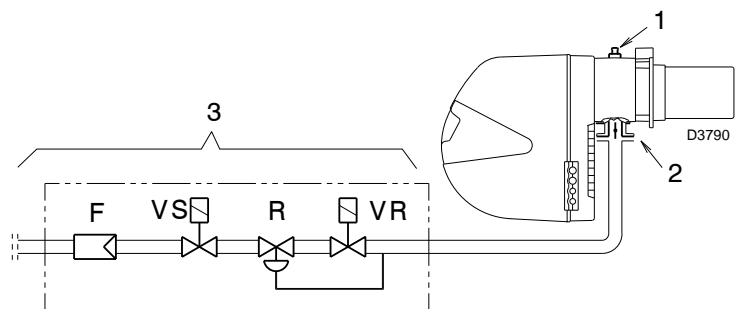

Fig. 36
Gas pressure measured at the test point 1)(Fig. 36), with:
Load loss at gas butterfly valve 2)(Fig. 36) with maximum opening: 90°.
Load loss at train 3)(Fig. 36) including: adjustment valve VR, safety valve VS (both fully open), pressure adjuster R, filter F.
- Subtract the combustion chamber pressure from the gas pressure measured at test point 1)(Fig. 36);
- Gas pressure at test point 1)(Fig. 36) = 7.5 mbar
**To know** the required gas pressure at test point 1)(Fig. 36), set the maximum output required from the burner operation, then:
- read, on the right (column 1) the socket pressure 1)(Fig. 36);
- gas pressure at test point 1)(Fig. 36)